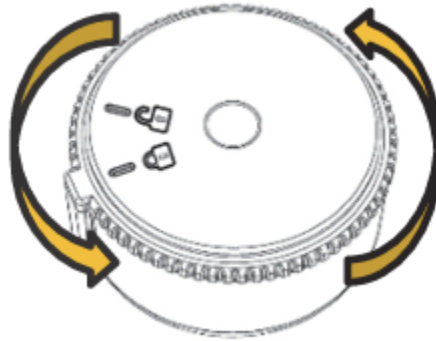

Figure 3: Counterclockwise rotation to remove back of HOBO logger.
- d. Undo the back of the logger by pushing down on the back and rotating the cover counterclockwise (align the unlock icon with the double-ridge on the side of the logger) (Figure 3).